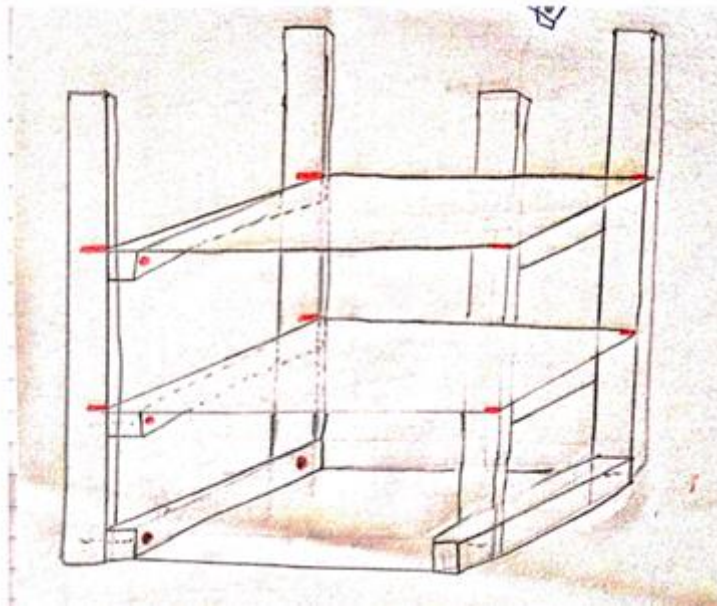

Figure 11: Attachment plane of the upper triplex on the general base
6.- As a result, the following results were obtained (Figure 11)